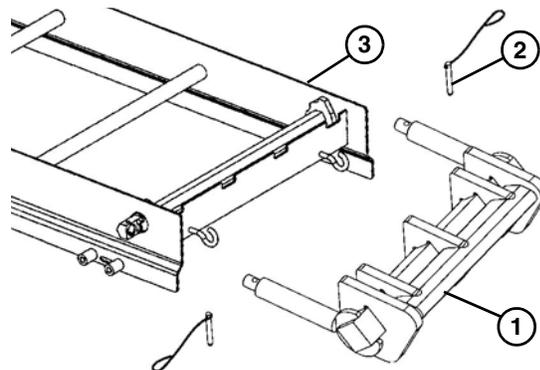

**Figure 20**
- Place the idler tail assembly (**Figure 20, item 1**) against the holes in the tip up hex shaft assembly (**Figure 20, item 2**) and secure with a pull pin (**Figure 20, item 3**) on each side.